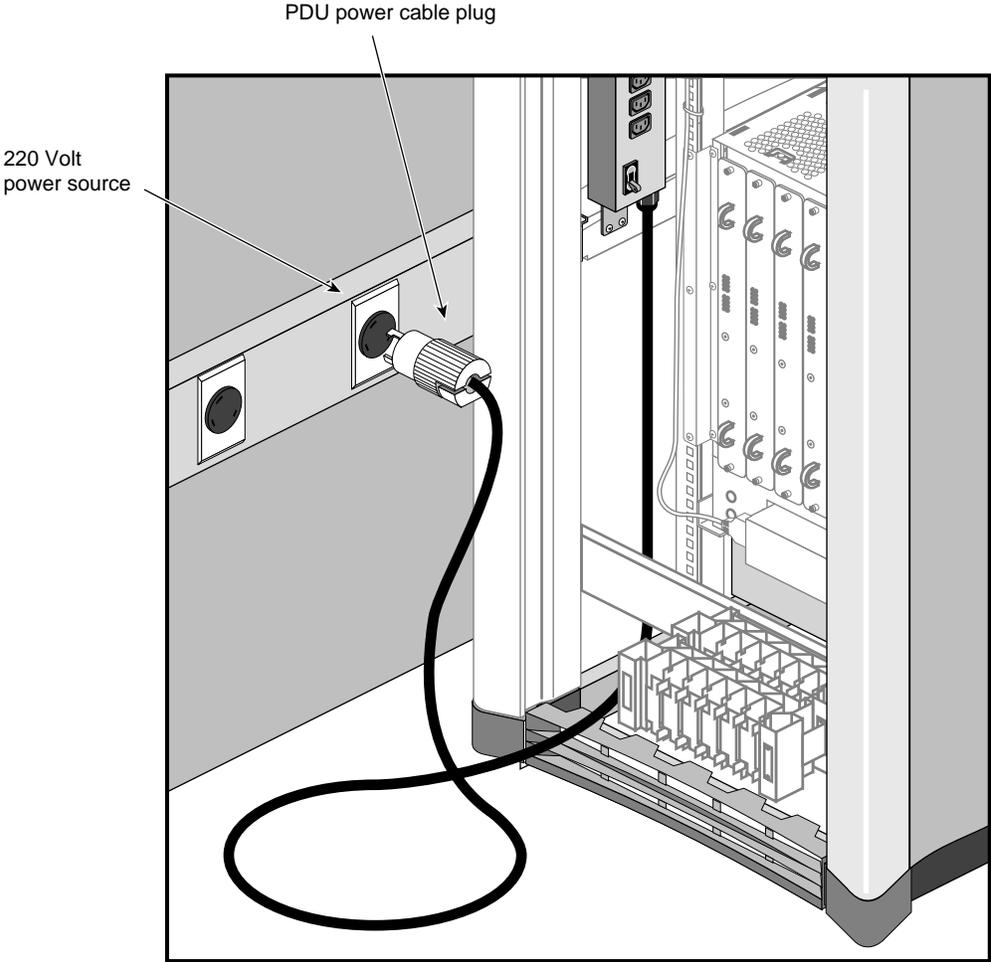

Figure 5-6 Connecting the System Power Cable
2. Insert the PDU system power cable into the 220 VAC wall receptacle (see Figure 5-6).
3. Connect the power cord(s) of the system module(s) into either of the top two (20-amp) receptacles of the PDU (see Figure 5-6).